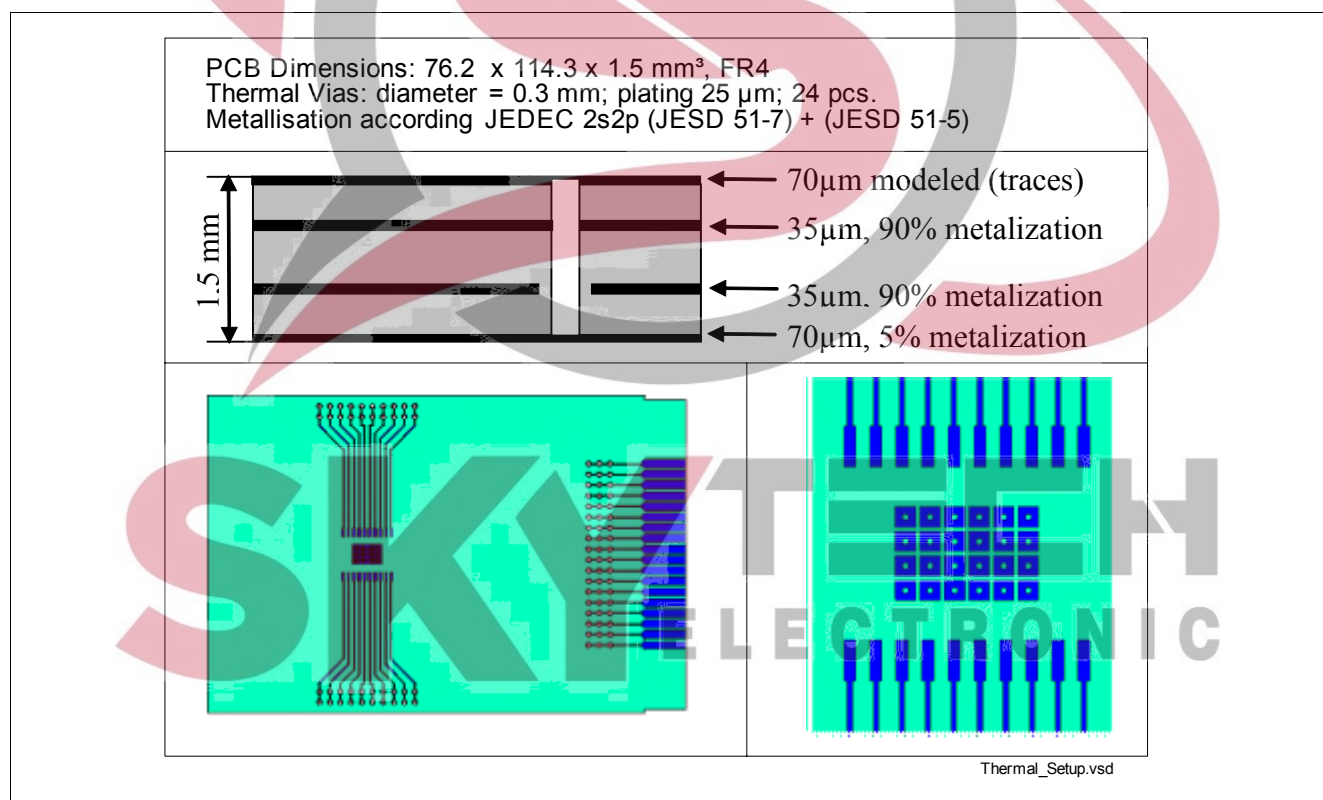

Figure 4 Thermal Simulation - PCB setup
2) PCB set-up according **Figure 4**